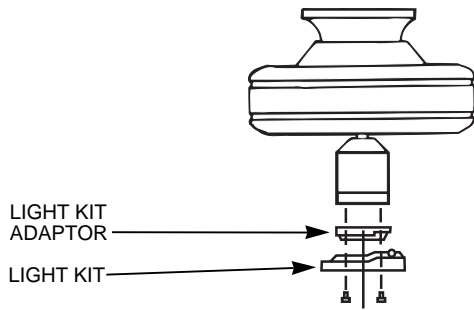

FIGURE 5C
**NOTE:** Some Hunter fans require a special adaptor plate between the switch housing and the light kit. This plate is provided with those fans which need it. It should be installed as shown in Figure 5C. If the switch housing on your fan is 3-1/4" diameter or less you do not need the adaptor, mount the light kit directly to the switch housing.